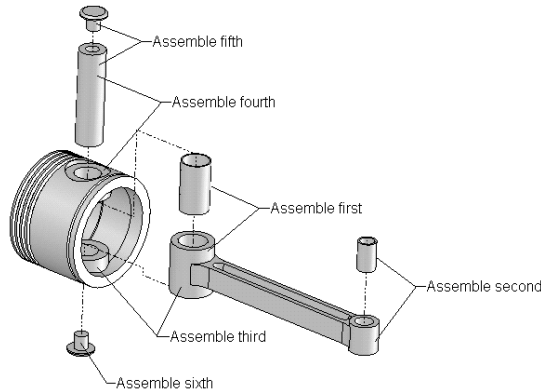
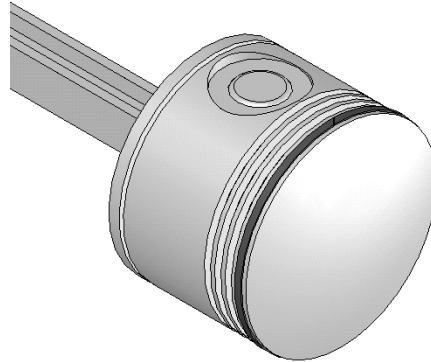

Figure 12-39 Assembly sequence of the Articulated Rod, Piston, Piston Pin Plug, Rod Bush Upper, and Rod Bush Lower
Figure 12-40 First instance of the Piston Ring assembled with the Piston
3. Assemble the Rod Bush Upper with the Articulated Rod using the assembly relationships. Figure 12-39 shows the sequence in which you need to assemble the components. The exploded view and the flowlines are shown for your reference only. The assembly after assembling the Articulated Rod, Rod Bush Upper, Rod Bush Lower, Piston, Piston Pin, and Piston Pin Plugs is shown in Figure 12-40.
4. Insert the Piston Ring in the subassembly and assemble it with the Piston, as shown in Figure 12-40. Similarly, assemble the other instances of the Piston Ring with the Piston.